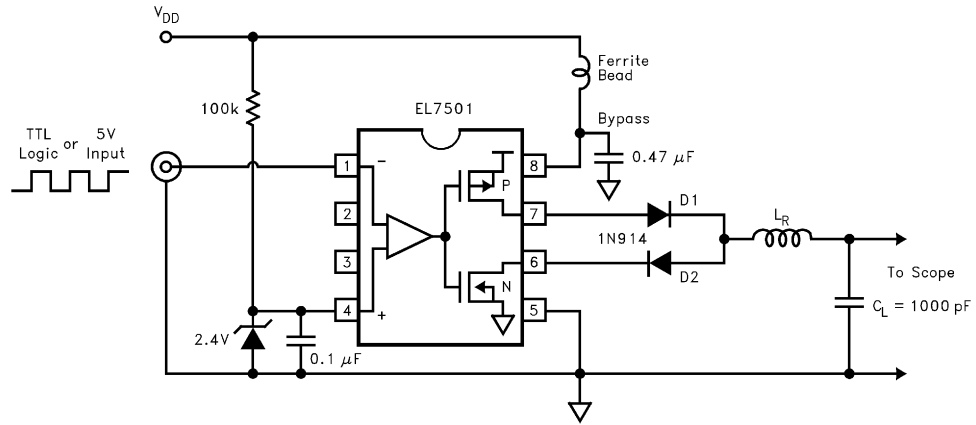

FIGURE 9. RESONANT GATE DRIVER
Resonant gate driver can be used to boost the gate voltage swing while increasing driver efficiency. In Figure 9, an EL7501 is configured with (2) external “ring” diodes and resonating inductor  $L_R$ . For tutorial purposes, the power MOSFET load was replaced by a 1000pF capacitor ( $C_L$ ). The “ring” diodes are fast switching diodes capable of withstanding the 1 amp peak current, such as the 1N914. Standard de-coupling techniques are applied with 5V applied to  $V_{DD}$ , the circuit delivers +10V to -5V output. In “5V only” systems, sufficient output swing is available so as to eliminate the need for costly “logic level” power FETs, and provides below ground swing for superior turn-off.